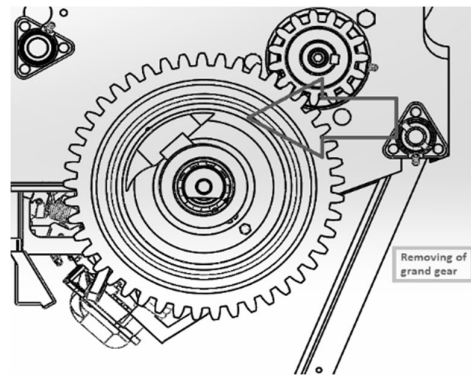

Figure 38: Removing of grand gear
- Grand gear is removed (Figure 38).